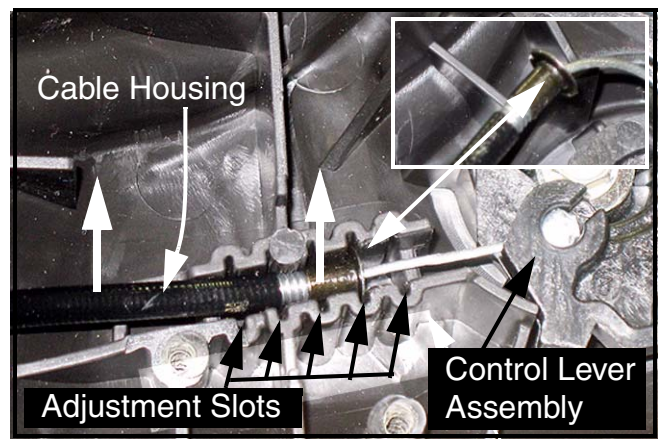

FIGURE 2
- Pull the cable housing free of the adjustment slot in the control panel. The fitting at the end of the cable housing (see Figure 2 inset) is usually placed in the notch that is second-nearest the control lever assembly. See Figure 2.